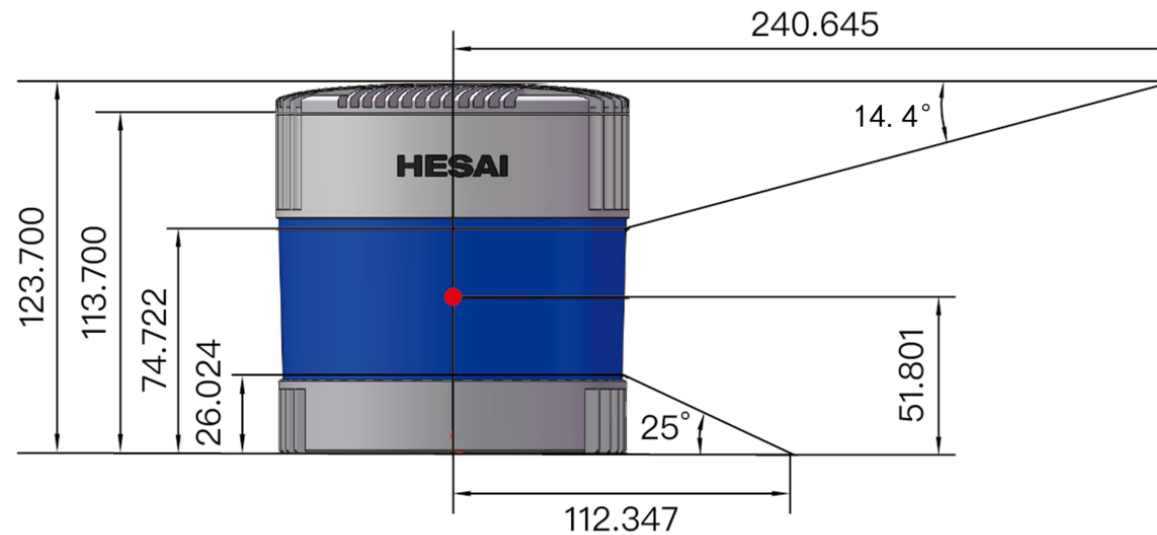

Figure 5. Laser firing position (unit: mm)
- The origin's exact position is shown as a red dot in Figure 5, “Laser firing position (unit: mm)”. All measurements are relative to the origin.